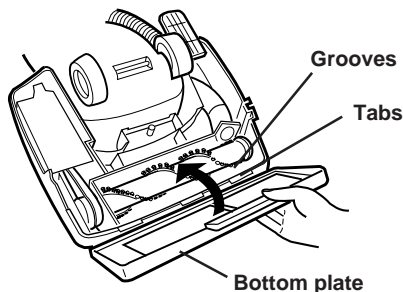

Fig.31
- 1 Insert the front six tabs of the bottom plate into the grooves at the front end of the nozzle head, then reset the bottom plate. (Fig. 31)